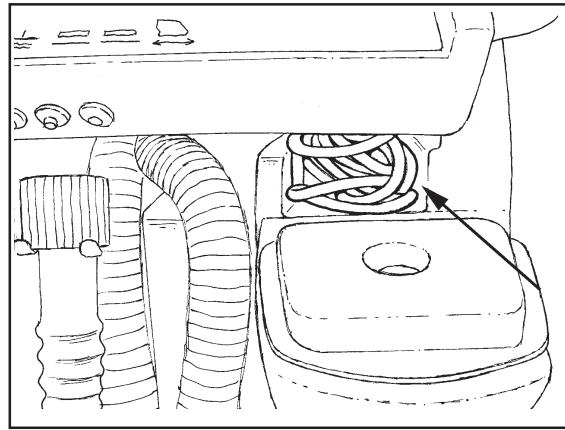
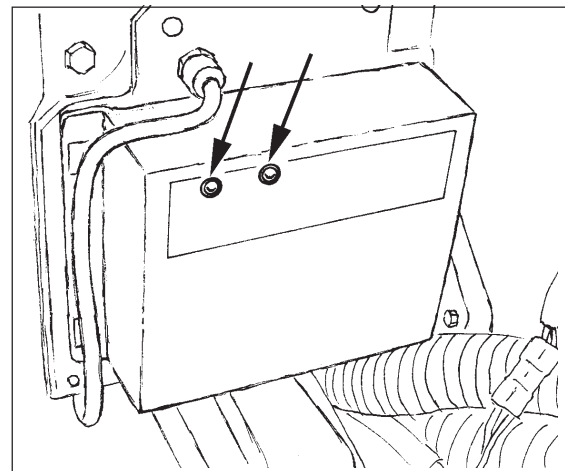

Figure 16
Figure 17
5. The FOCUS 17/20 is equipped with an on-board charger located behind the recovery tank (See Figure 17). The charger is a 3-stage charger designed to maximize battery life. The AC power cord to the on-board charger is located in its storage compartment under the control handle at the rear of the machine (See Figure 16). Pull the cord out of the storage compartment.
- Bulk Stage** - In the bulk stage of charging, the red light is illuminated on the charger (See Figure 17). During this stage the charger is supplying its full amp output to the batteries. It will continue to charge the batteries at this rate until the batteries reach approximately 75% of their capacity.
- Absorption Stage** - In the absorption stage the red and green light will be illuminated on the charger (See Figure 17). During this stage the charger maintains constant voltage and lets the batteries absorb the charge at their own rate.
- Float and Maintenance Stage** - In the maintenance stage the red light turns off and only the green light will be illuminated on the charger (See Figure 17). During this stage the charger applies a lower, closely regulated voltage to maintain full charge and prevents discharge. Batteries can be connected indefinitely without harm.
- Unplug charger power cord from the wall outlet before powering up control panel on machine. Store the charger power cord in the storage compartment located under the control handle (See Figure 16).